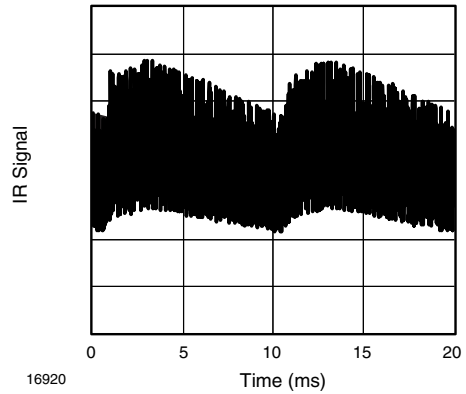

Fig. 15 - IR Signal from Fluorescent Lamp with Low Modulation
- Strongly or weakly modulated noise from fluorescent lamps with electronic ballasts (see figure 15 or figure 16)